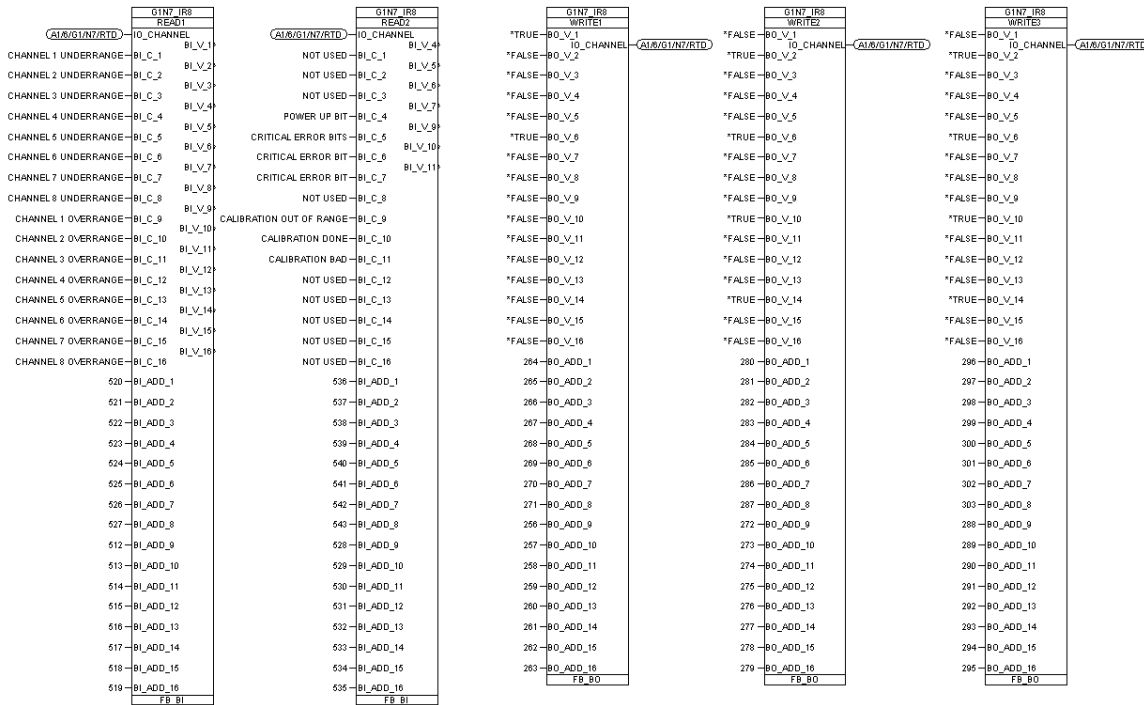

Figure 6-45. Example of 1794-IR8 Read and Write GAP Blocks
In this example, the first read block is set up to monitor the all of the under and overrange bits on the module. The second read block monitors the Powerup bit, Critical Error bits, Calibration Range bit, Calibration Done bit, and Calibration Bad bit. The first write word(1) sets the module for °F units, 100 Hz filtering, and no calibration. The second write word(2) sets the module for 100 ohm Pt Euro RTD on channels 0, 1, 2, and 3. The third write word(3) sets the module for 100 ohm Pt Euro RTD for channels 4, 5, 6, and 7. See Figure 6-45 for GAP read and write block example.